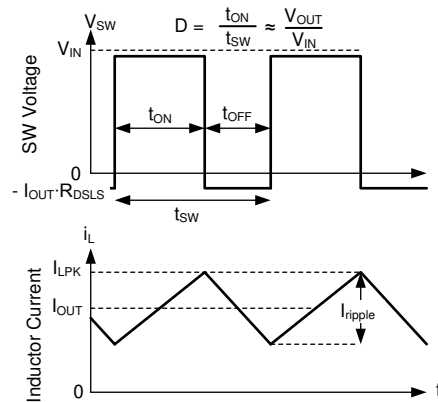

图 8-16. SW Voltage and Inductor Current Waveforms in Continuous Conduction Mode (CCM)
The following operating description of the LM61460 refers to 节 8.2 and to the waveforms in 图 8-16. In CCM, the LM61460 supplies a regulated output voltage by turning on the internal high-side (HS) and low-side (LS) NMOS switches with varying duty cycle (D). During the HS switch on-time, the SW pin voltage,  $V_{SW}$ , swings up to approximately  $V_{IN}$ , and the inductor current,  $i_L$ , increases with a linear slope. The HS switch is turned off by the control logic. During the HS switch off time,  $t_{OFF}$ , the LS switch is turned on. Inductor current discharges through the LS switch, which forces the  $V_{SW}$  to swing below ground by the voltage drop across the LS switch. The converter loop adjusts the duty cycle to maintain a constant output voltage. D is defined by the on-time of the HS switch over the switching period: